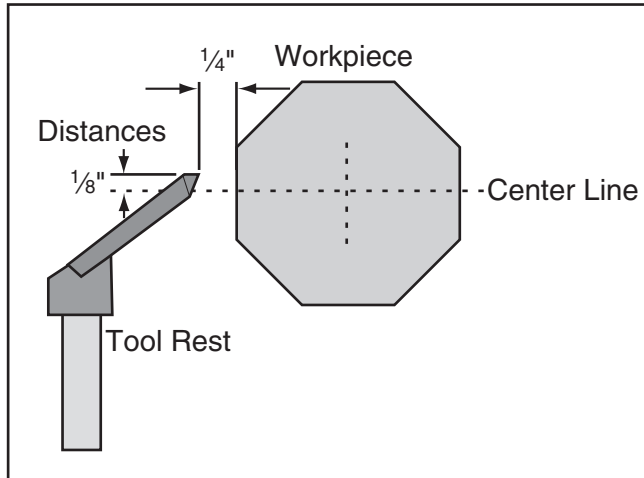

Figure 45. Tool rest position relative to workpiece.
11. Position the tool rest approximately $\frac{1}{4}$ " away from the workpiece and approximately $\frac{1}{8}$ " above the workpiece center line (see **Figure 45**).